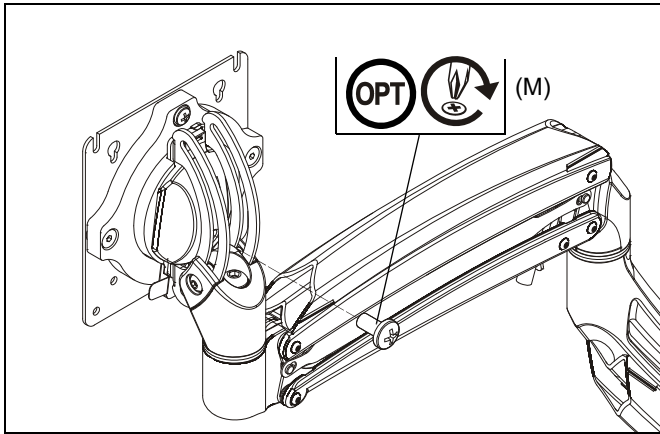

Figure 17
NOTE: In order to prevent display from being easily removed from mount using the quick release lever, install M4x4mm security screw (H) into lower hole on back of faceplate. (See Figure 17)